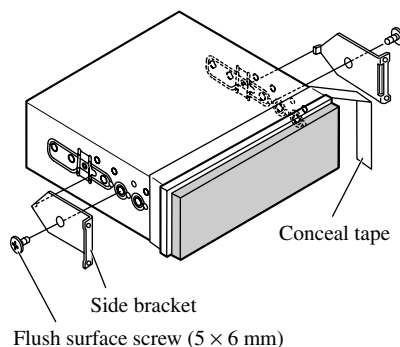

Fig. 15
1. Decide the position of the side brackets. (Fig. 15)